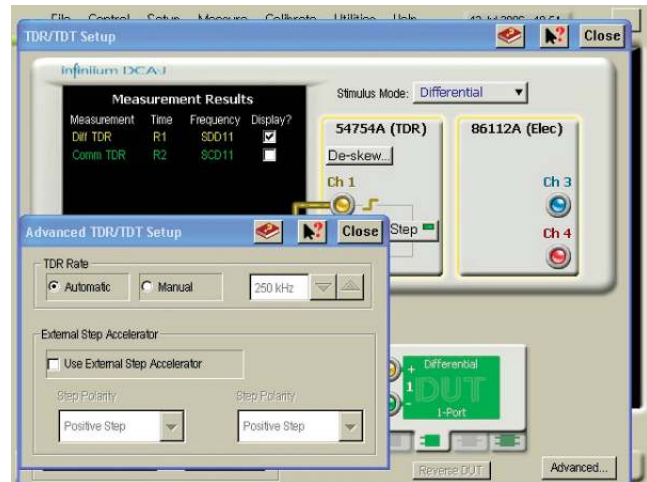

Figure 13. TDR Pulse
- (b) From the TDR setup dialog box click the “advanced” button to bring up the TDR pulse rate dialog box (see Figure 13).